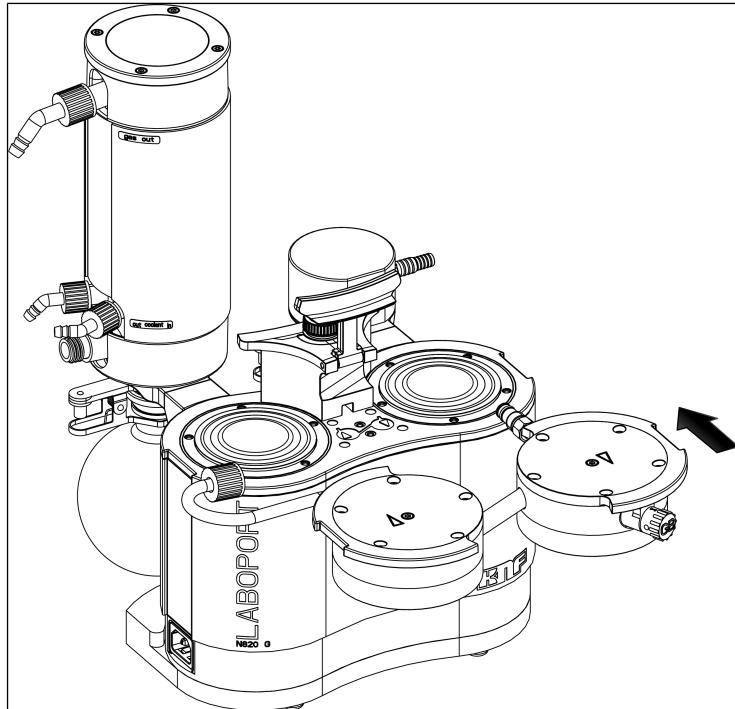

Fig.15: Fit pump head
6. Place the pump heads (consisting of head cover (3), intermediate plate (6) with valve plates/seals (4) and pressure plate (2)) together with the connection tube on the pump housing according to the pencil line (see Fig. 15).
**i** Make sure that the hose connection (11) is inserted straight into the inlet separator.
7. Screw in the union screw of the hose connection (11) 1-2 turns by hand.